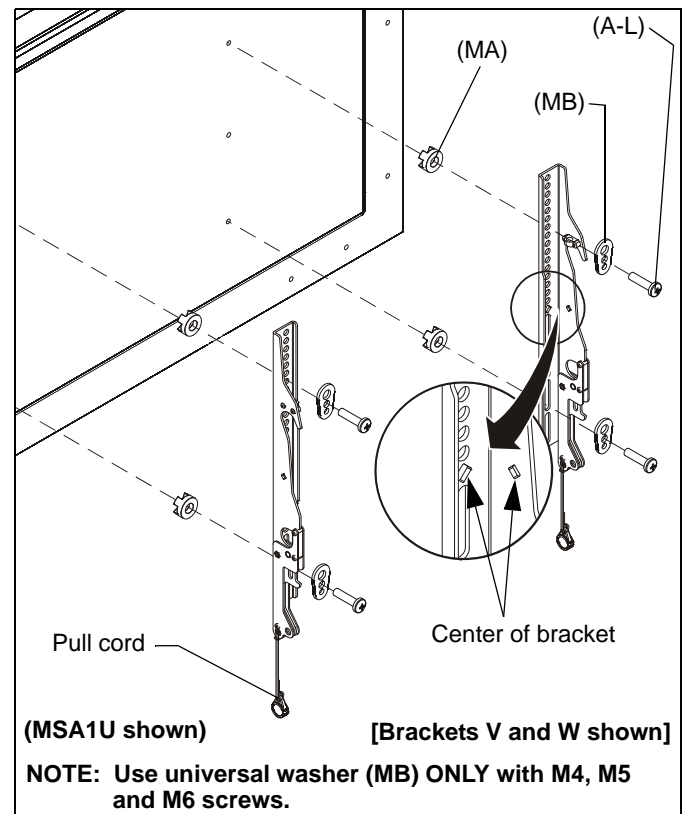

Figure 4
1. Align the center of the bracket (V and W or X and Y) with center of screen. (See Figure 4)
2. Select correct screws, nesting spacers (if necessary) and universal washers (if required) from the hardware bag (A-M) and attach brackets to back of screen. (See Figure 4)